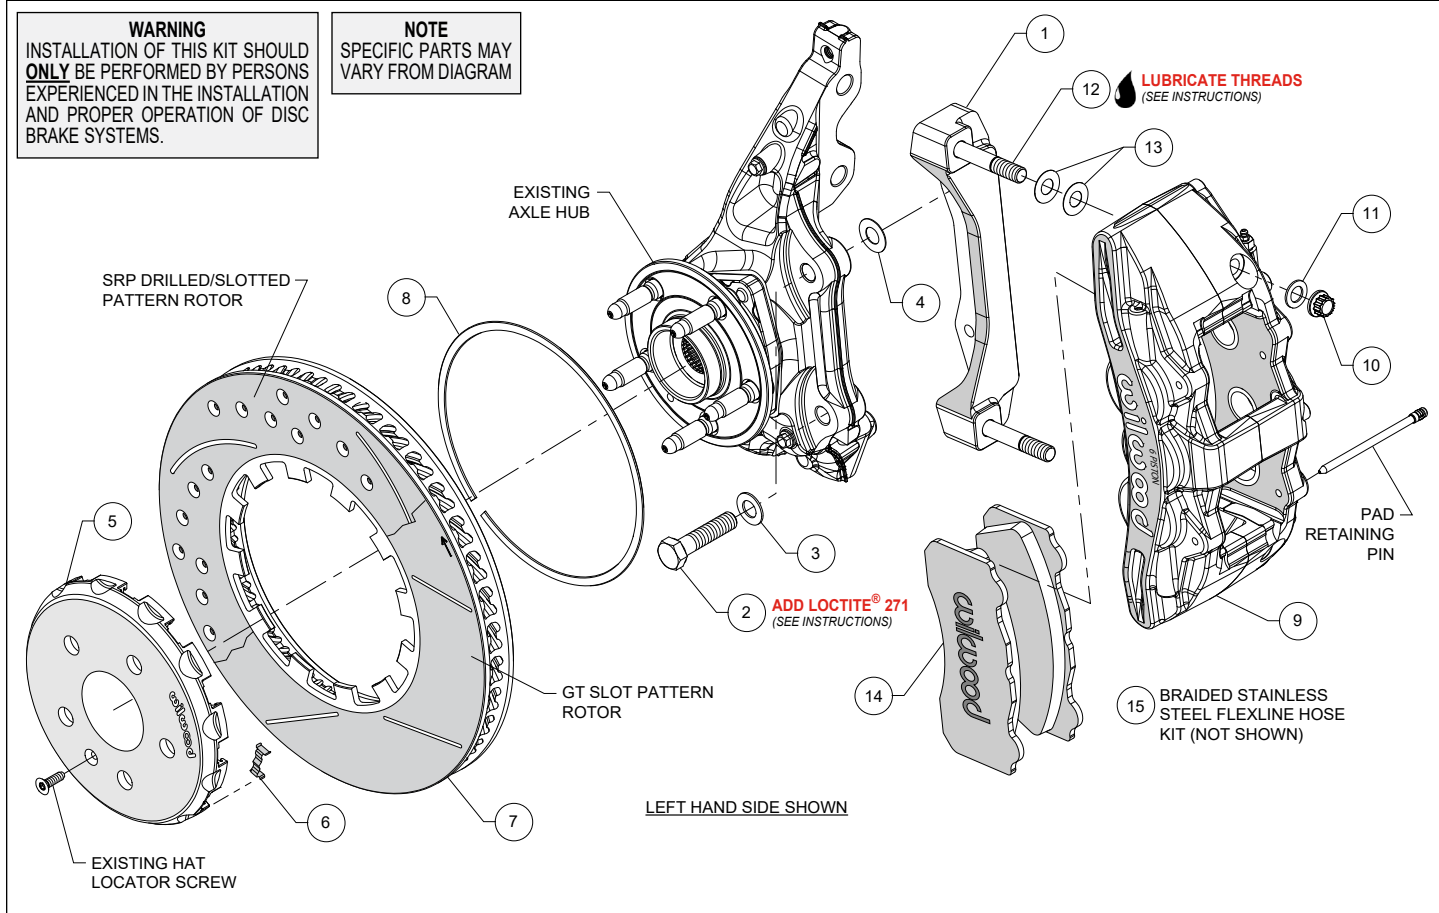

Figure 1. Typical Installation Configuration
**NOTE:** Numbers in parenthesis refer to the parts list and Figure 1 on the preceding pages.
•The caliper mount bracket (1) should initially be installed with clean, dry threads on the mounting bolts. Orient the bracket, as shown in Figure 1 and Photo 1, and install using bolts (2) and washers (3). Initially place one .029" thick shim (4) on each bolt between the bracket and upright, Figure 1. Temporarily tighten the mounting bolts. **NOTE:** The bracket must fit squarely against the mount bosses on the upright. Inspect for interference from casting irregularities, machining ridges, burrs, etc. Later, after the caliper alignment has been checked, the mount bolts will be secured using red Loctite® 271.
•Insert the dynamic mount wear clips (6) into the slots in the hat (5), Photos 2 and 3. Orient the rotor (7) as shown in Figure 1 and Photo 4, with the flush side of mount lugs facing the hat. Secure the rotor to the hat using the snap ring (8) by simultaneously pushing down on the rotor and installing the ring into the groove in the hat, as shown in Photo 5. Carefully inspect snap ring to ensure complete engagement in the groove.
•Slide the hat/rotor assembly onto the axle hub, Photo 6. **NOTE:** The hat must fit flush against the axle hub flange or excessive rotor run out may result. Install the hat locator screw (OEM), as shown in Figure 1, to keep the hat/rotor assembly in place while continuing with the installation.
•**NOTE:** This kit contains distinct right and left hand calipers that must be mounted in a specific direction, as described below. Lubricate the caliper mounting studs (12) with lightweight oil. Initially place two .015" thick shims (13) on each stud between the caliper and the bracket, as shown in Figure 1 and Photo 7. Mount the caliper (9) onto the bracket (1) using lock nuts (10) and washers (11), Figure 1. Temporarily tighten the lock nuts. Ensure that the caliper is mounted so the largest pistons are at the rotor exit end of the caliper, in relation to the direction of the rotor. View the rotor through the top opening of the caliper. The rotor should be centered in the caliper, Photo 8. If not, adjust by adding or subtracting shims (4) between the bracket and the upright. Always use the same amount of shims on each of the two mounting bolts. Once the caliper alignment is correct, remove the bracket mounting bolts (2) one at a time, apply red Loctite® 271 to the threads, and torque to 77 ft-lbs.
•Remove the two pad retaining pins from the caliper (9) by pushing out the pins from the tapered end using a blunt instrument. Insert the brake pads (14) into the caliper from the bottom, Figure 1 and Photo 9. With the friction material facing the rotor, secure the brake